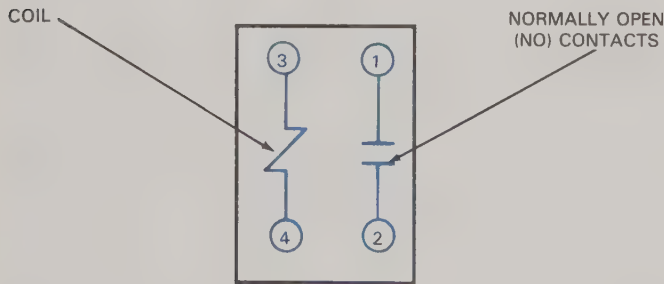
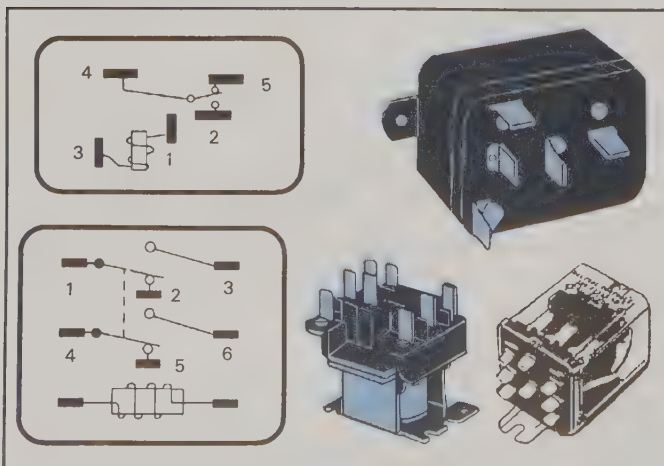

Fig. 22-7. Symbols like these are often used to depict relay components on schematics.
Fig. 22-8. A relay can have a number of contacts to control different devices simultaneously.
The relay case often has a schematic (electrical drawing) or symbols for electrical components that reveal the internal operation of contacts and coil terminals. See Fig. 22-7. The relay data plate reveals coil voltage and amperage rating of the contacts. Relays often contain more than one set of contacts. It is not uncommon, for example, to find relays used in applications requiring 10 or 12 poles per device. On a schematic, relay contacts are always shown in the state that they assume when the coil is deenergized: normally open (NO) or normally closed (NC). All sets of contacts will change position at the same time when the coil is energized. See Fig. 22-8.